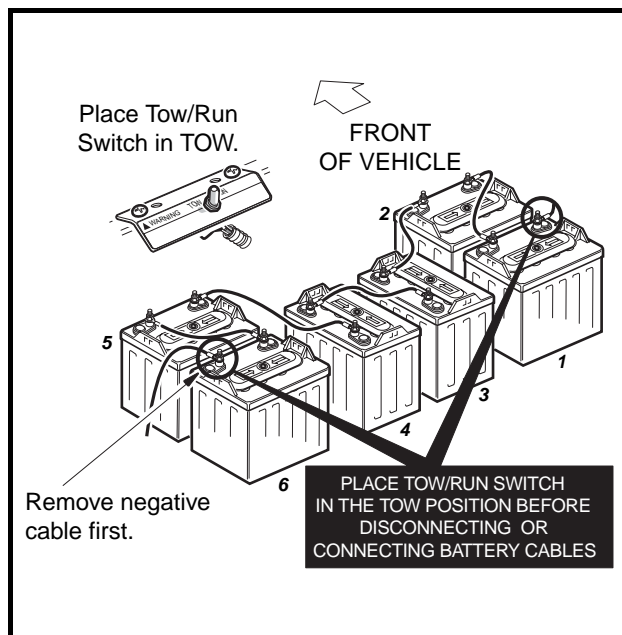

Figure 10-1 Battery Bank for IQ System Vehicle
- To avoid unintentionally starting the vehicle, place Tow/Run switch in the TOW position, then disconnect the batteries as shown (Figure 10-1, Page 10-2).